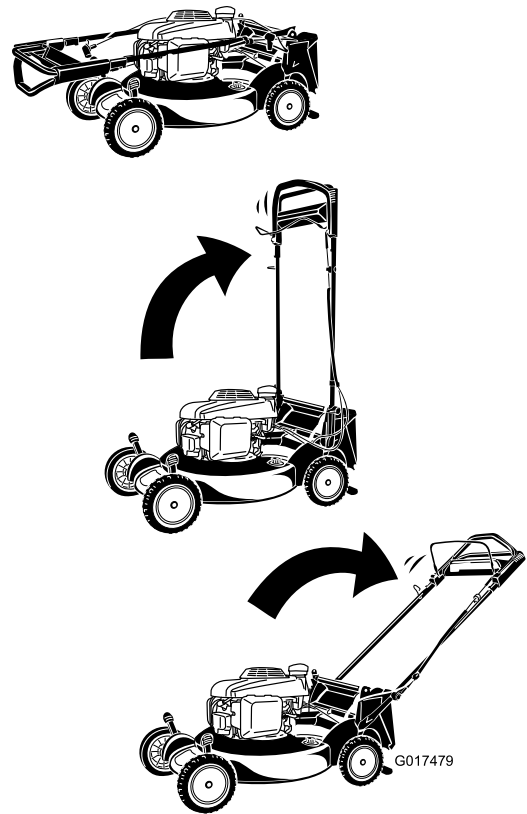

Figure 4
3. Rotate the handle rearward (Figure 4).